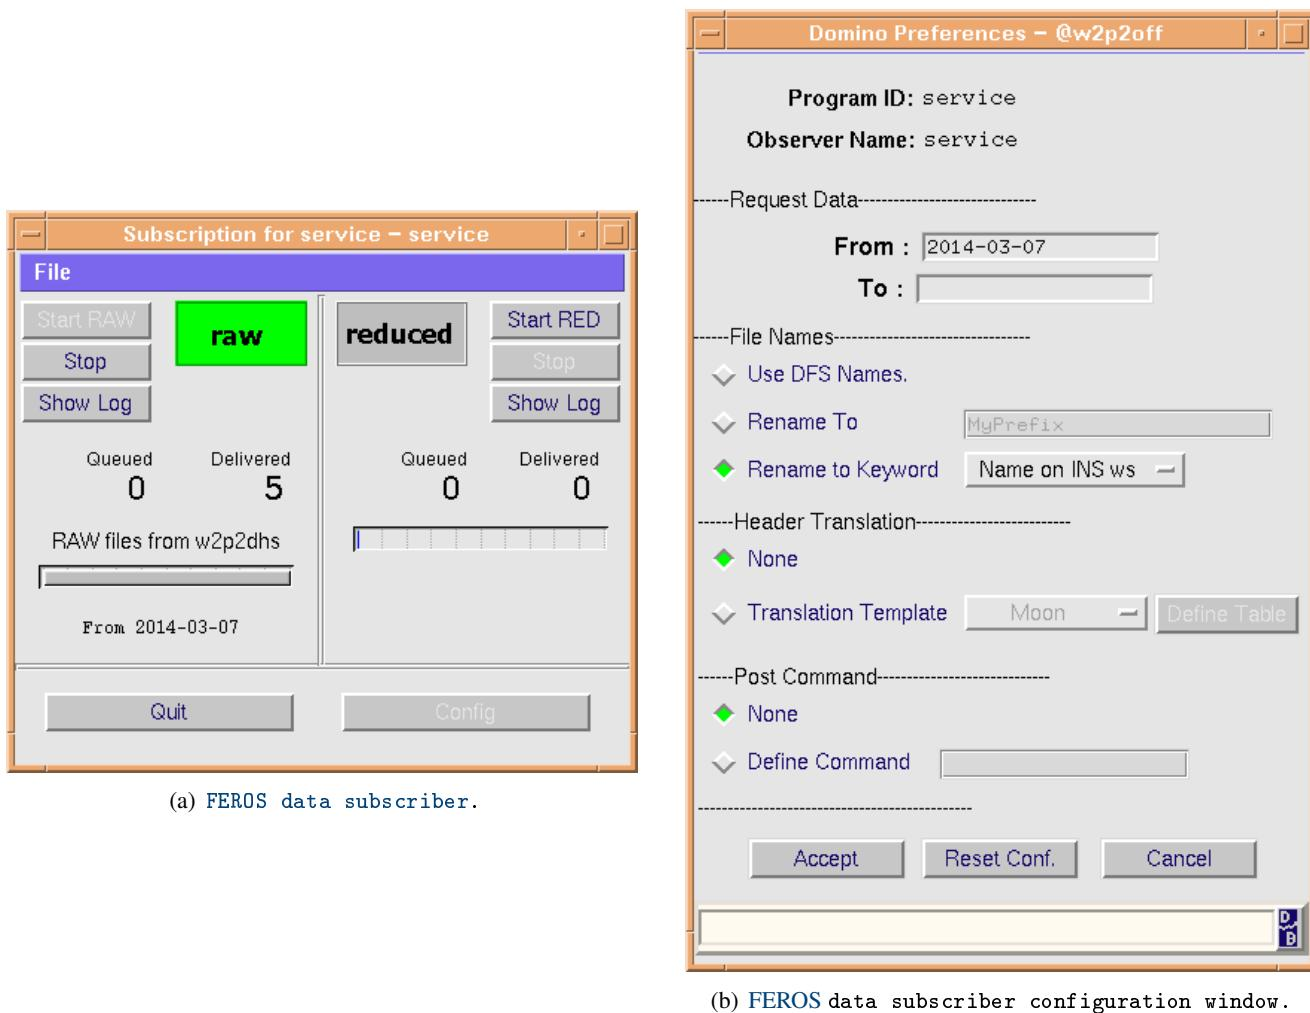

Figure 10.3: FEROS data subscriber.
- A. Stop **data subscriber** and **DRS** at the **DRS** computer (Fig. 10.3(a), p. 79).
- C1. Left click start **data subscriber** and configure it (Fig. 10.3(b), p. 79).